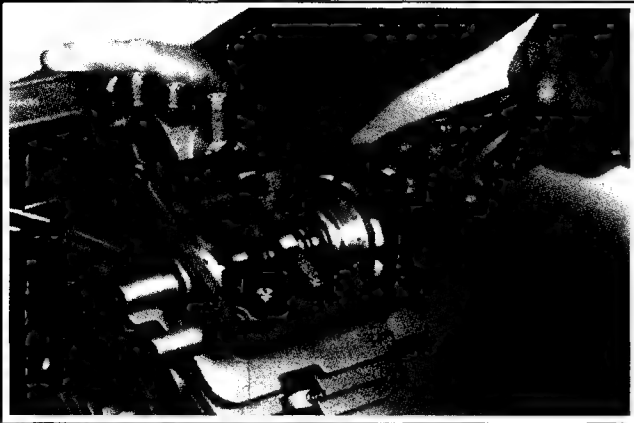

Figure 9-30. Removing Coiled Spring Pin.
4. Grasp protruding end of the coiled spring pin with vise grip pliers. Pull the pin out of camshaft. See Figure 9-30.